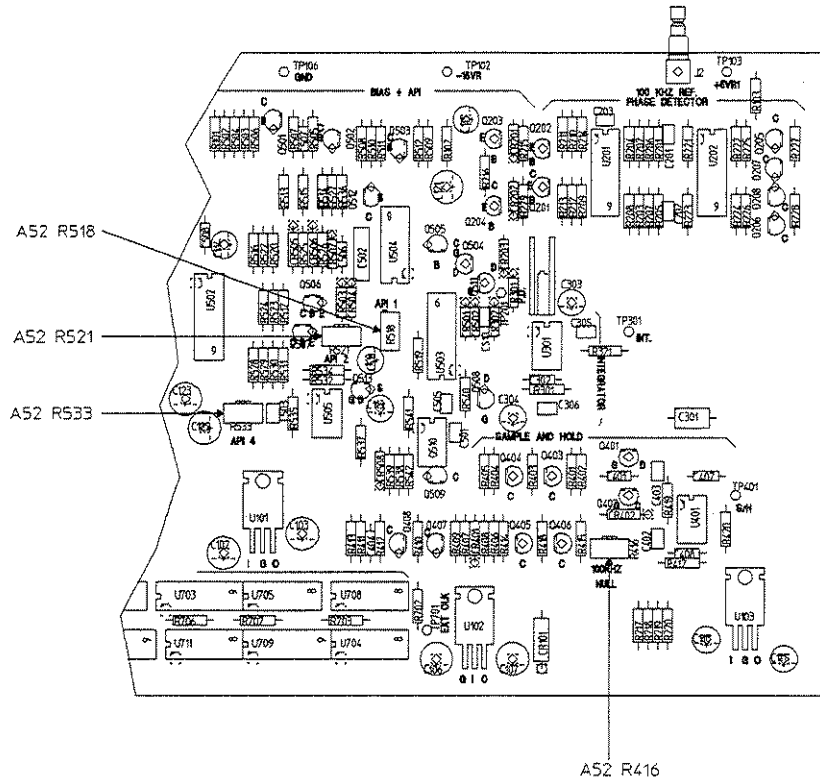
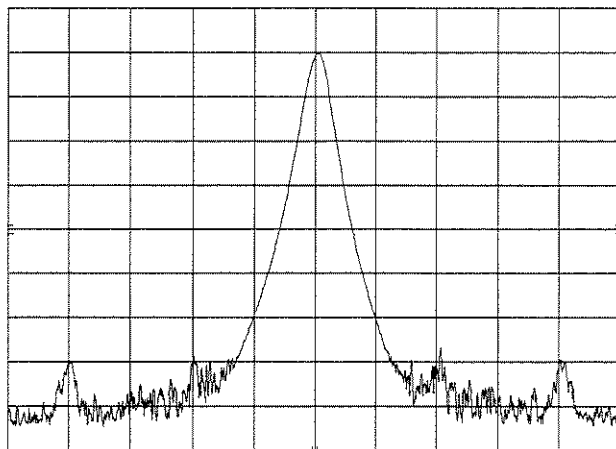

Figure 1-3. A52 Fractional-N Component Locator
Figure 1-4. Spurs Out of Adjustment
6. Adjust A52 R416 (see figure 1-3) for a minimum spur level at approximately 400.2 MHz (figure 1-4 shows the spurs out of adjustment).